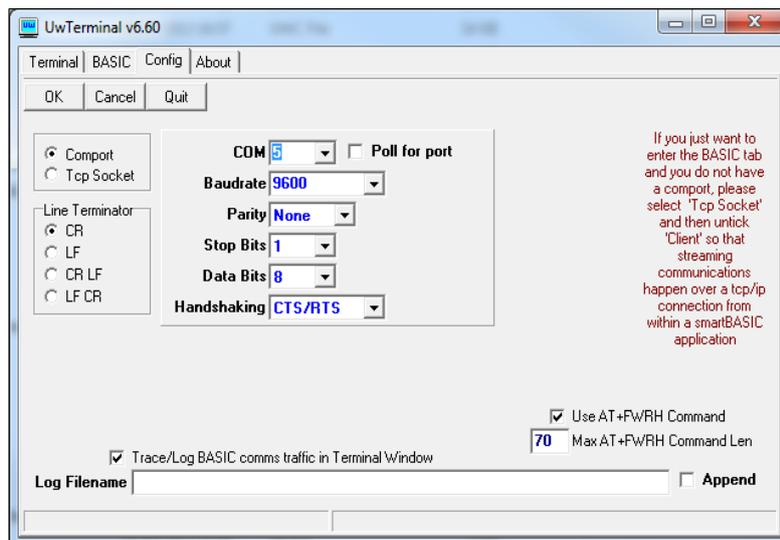

Figure 3: Comms Settings
- Configure the COM port with the port number seen in the device manager with the following settings (Figure 3):